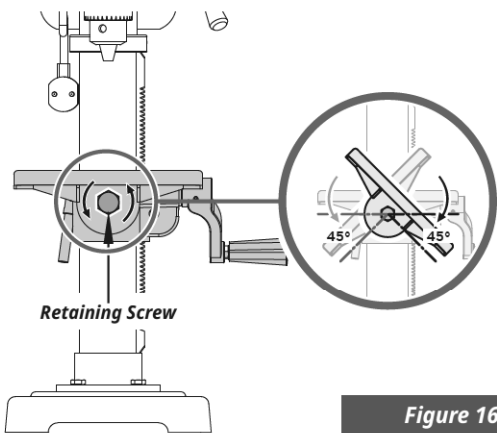

Figure 16
5. You can also adjust the tilt angle of the drilling bench. To do so, release the retaining screw under the drilling bench with an open end wrench SW 19 (not scope of delivery). Tilt the drilling bench as desired to the right or left, up to a max. of 45° and secure the drilling bench again with the retaining screw. (See Figure 16&17)